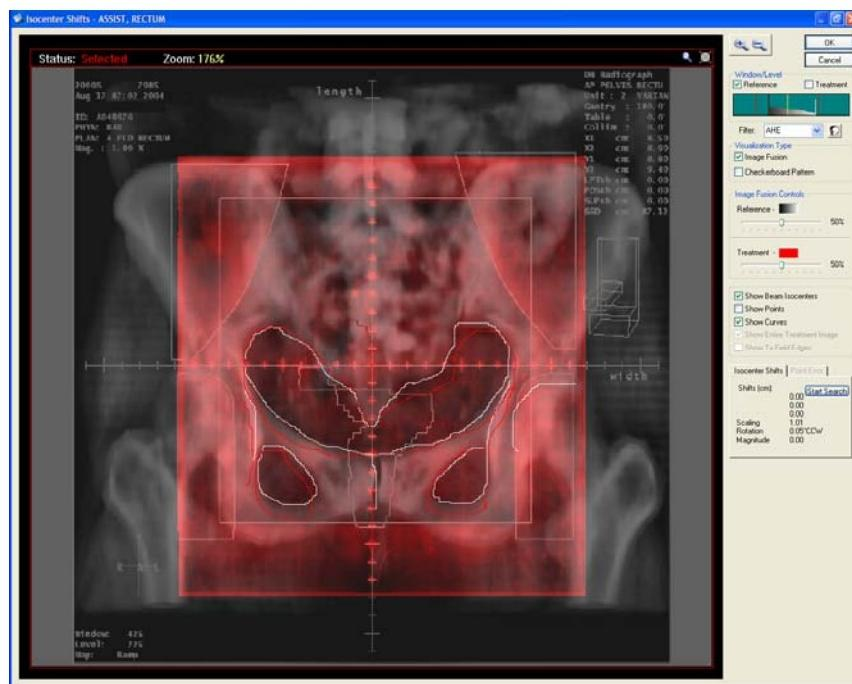

Figure 47: Isocenter Shifts Window - Curve Registration
3. Click **Calculate Shift** to open the Isocenter Shifts window. Refer to Figure 47.